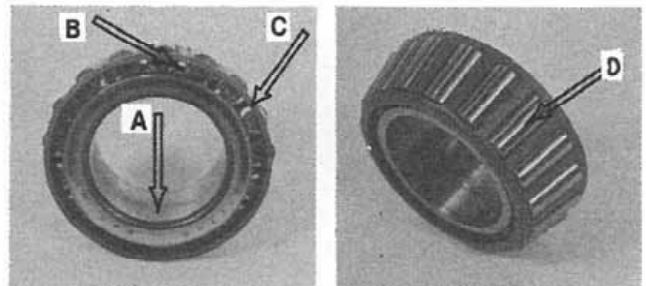

Figure 3:
Bearing cones (Fig. 3) must be thoroughly examined before reuse to ensure reliability. Reuse of this bearing is permitted, providing there is no bore wear of the inner race (A), spalling of the inner raceway (B), end wearing of the rollers (C) and no spalling or severe scratching of the roller surfaces (D).